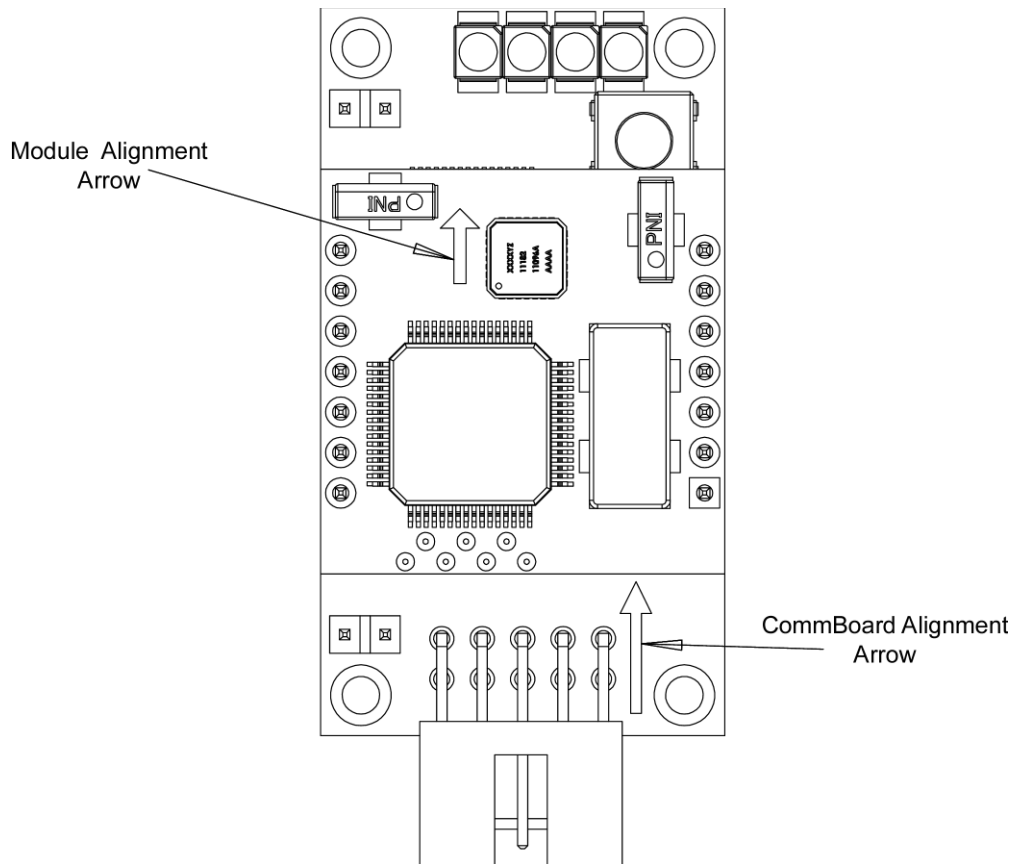

Figure 6. CommBoard with Module Plugged-In
- The arrow on callout 6 on Figure 6 is defined as pointing in the outward direction.
During installation, ensure that the white silk-screened arrows on both the stacked board and the CommBoard are pointing towards CommBoard LEDs. Do not misalign or plug the stacked board into the 7-pin headers backwards. Refer to Figure 6 and to Figure 7.